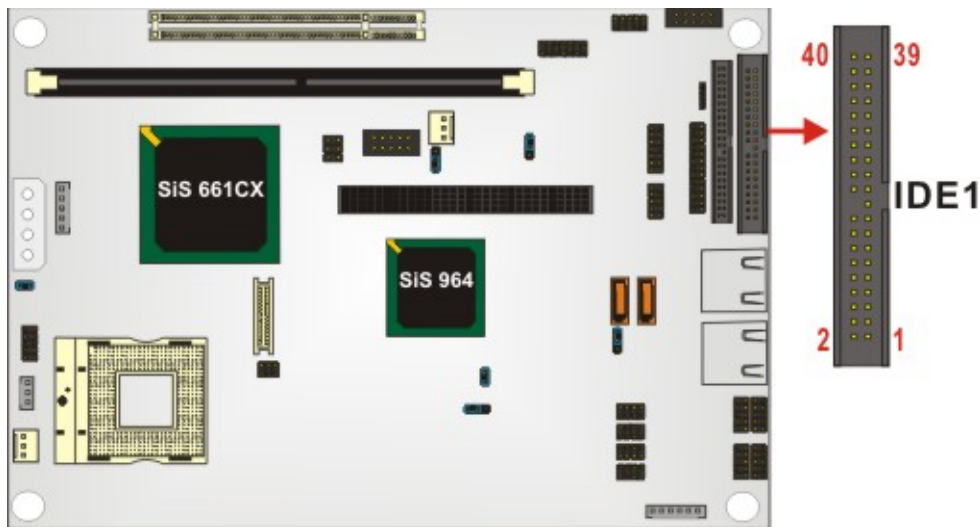

Figure 3-8: Primary IDE Device Connector Location
- CN Location:** See Figure 3-8